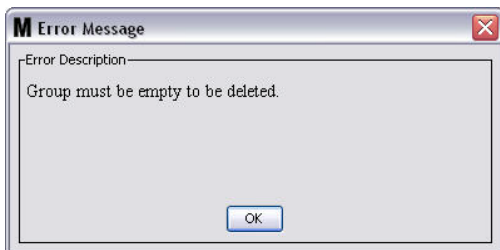

FIG. 147
- a. If there are tanks and/or meters in the Group Folder the Error Message box in FIG. 147 displays reminding you that the folder must be empty before you can delete it. Click OK to close the screen and save the changes.